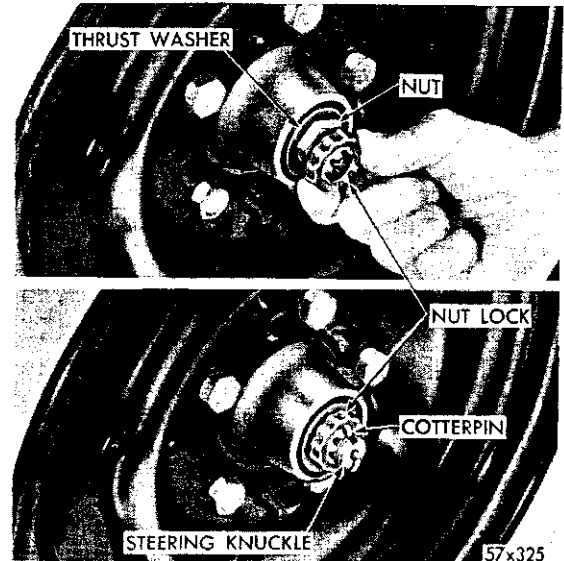

Fig. 1—Adjusting the Front Wheel Bearings
2. FRONT WHEEL BEARING ADJUSTMENT (Fig. 1)